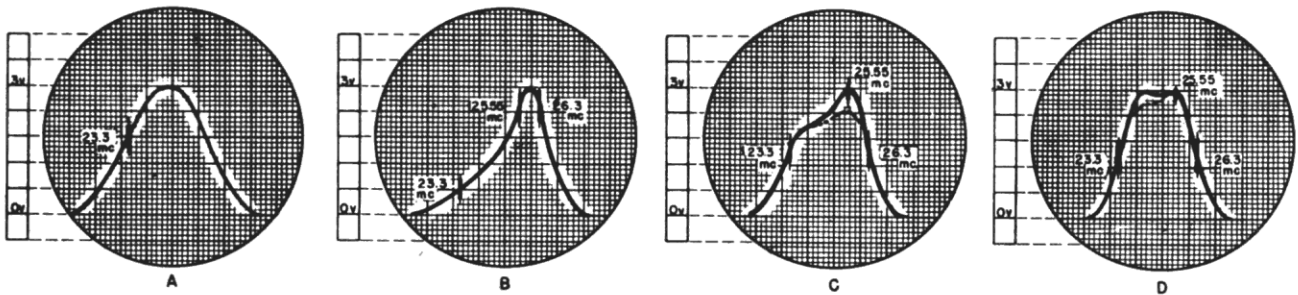

Fig. 22. Video I-F Alignment Curves
5. In most receivers, it may be only necessary to make an over-all video alignment check as in step 4, and make only minor touch-up adjustments of L208, L242, L243 and L244 to obtain the video i-f response curve of Figure 22-D. In general, the adjust-
ment of L243 places the 26.3 mc marker at the 50 percent point on the curve and L242 is used to place the 23.3 mc marker at the 50 percent point on the curve in Figure 22-D. L208 and L244 are adjusted to give maximum gain while getting an approximately flat-top curve. Reduction of L208 inductance with a corresponding increase in L244 will tend to reduce excess saddleback in the top of the curve.
7. The 26.3 mc marker should fall at the 50 percent mark, as shown in Figure 22-D, to give proper sesqui-sideband operation.